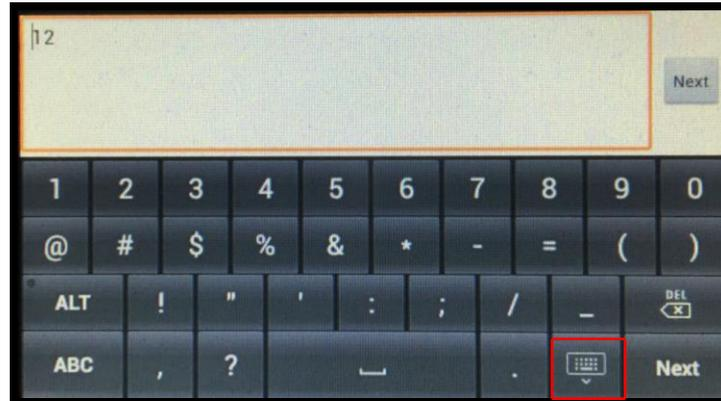

Figure 22
- a. An alternative method to close the keyboard and save the entered or changed values is to press the button, located in the lower right hand corner of the keyboard (highlighted by the red square – Figure 22).
- a. An alternative method to close the keyboard and save the entered or changed values is to press the **Keyboard** button, located in the lower right hand corner of the keyboard (highlighted by the **red square** – Figure 22).